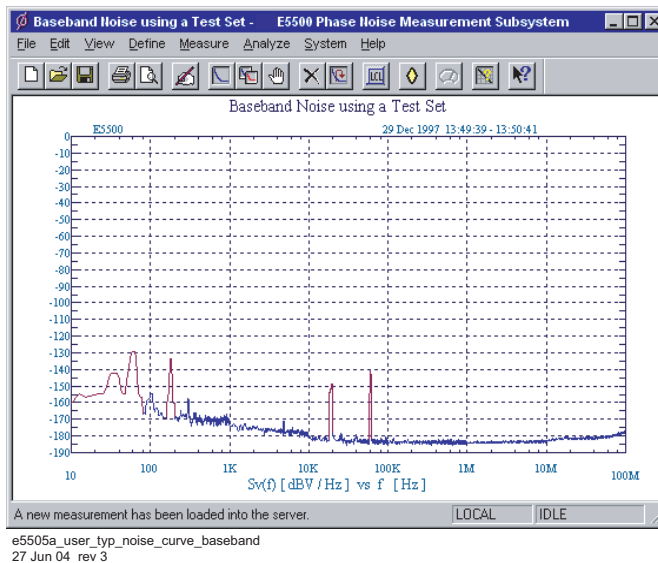

Figure 253 Typical phase noise curve for a baseband using a test set measurement.
- Figure 253 shows a typical phase noise curve for a baseband noise measurement using a test set.